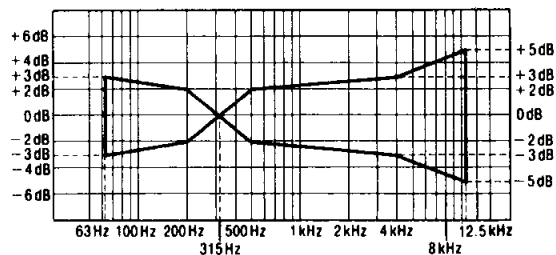

Fig. 9
2. Assure that the frequency response is within the range shown in Fig. 9 for both L-CH and R-CH.